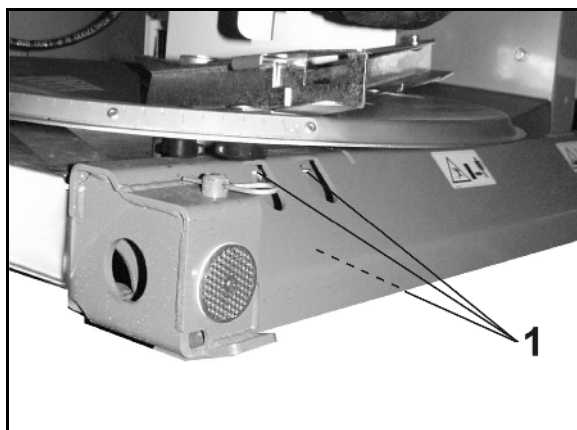

Fig. 74
The necessary distance between check screws (Fig. 74/1) and weighing frames is 2 mm.
1. Release the lock nut (Fig. 74/2)